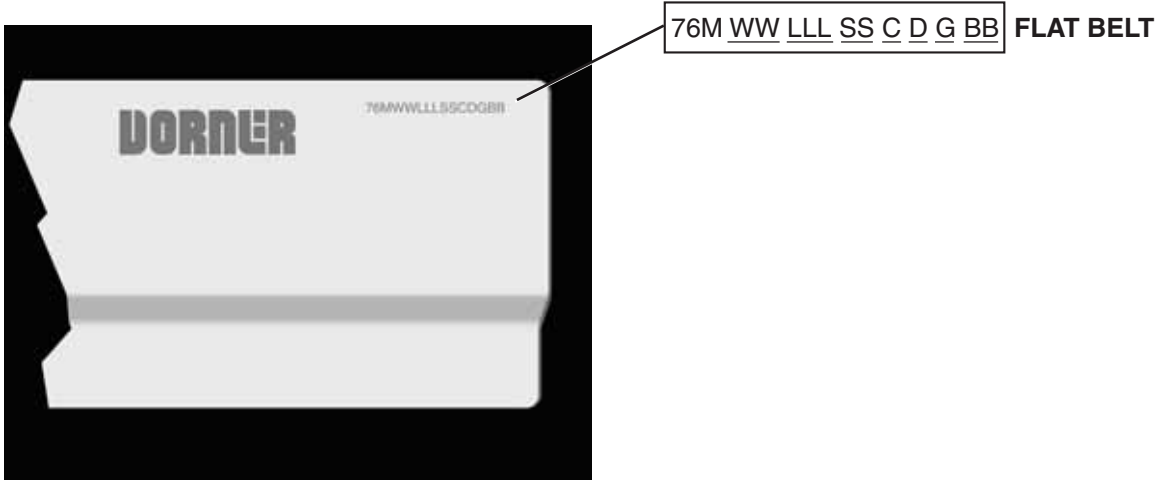

Figure 103
Refer to model number on the conveyor frame (Figure 103). From the model number determine the conveyor width (WW), length (LLL) and belt type (BB). Use data to configure belt part number as indicated below. *Add “V” for v-guided belts.